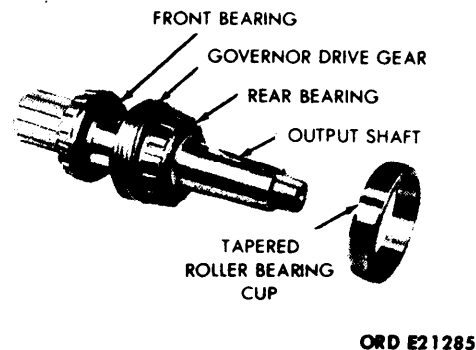

Figure 5-35. Disassembly of Output Shaft.
f. *Output Shaft.* Using an arbor press, press the governor drive gear, rear bearing, and front bearing from the output shaft. (See fig. 5-35.)
Upon assembling the output shaft, make sure rear bearing, governor drive gear, and front bearing are installed as shown in fig. 5-35.
- a. Assembly of output shaft. (See fig. 5-35.)